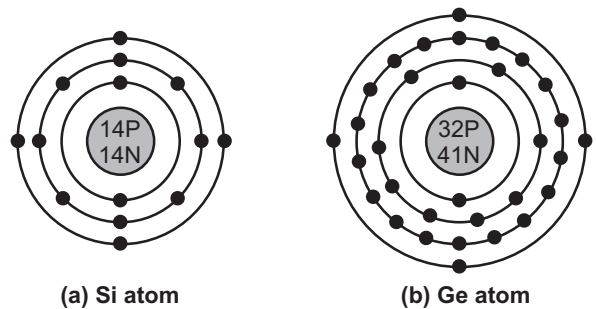

Fig. 1.3 : Simple atomic structures
- Fig. 1.3 (b) shows the atomic structure of a Germanium atom in which first, second, third and fourth orbits have 2, 8, 18 and 4 electrons respectively, with the result that the atomic number for Germanium is 32.
- Fig. 1.3 (a) shows the atomic structure of a Silicon atom in which first, second and third orbits have 2, 8, and 4 electrons respectively, with the result that the atomic number for Silicon is 14.